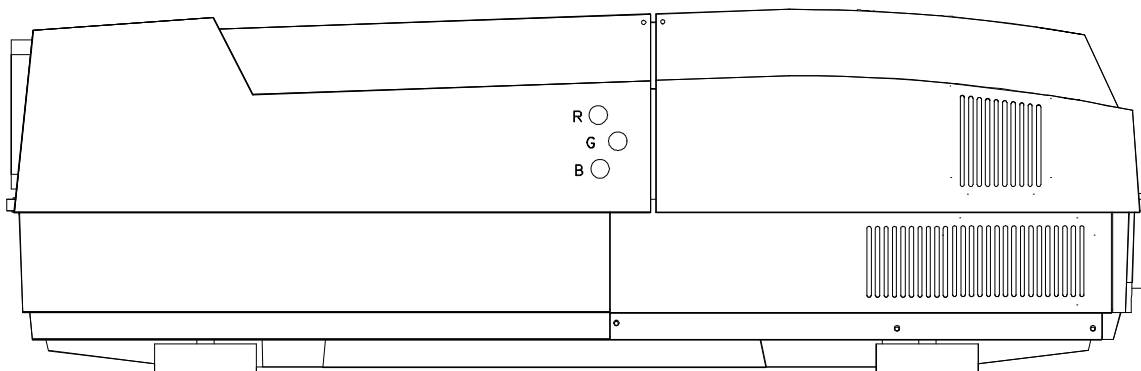

Figure 5-13. Electronic Focus adjustment screws.
The Electronic Focus adjustment focuses the electron beam in the CRT. View one color at a time for these adjustments. Recheck the focus of each color because some interaction between R, G, and B may occur. The adjustments are located on the right side of the projector (see *Figure 5-13*).
4. Adjust the Electronic Focus (see *Figure 5-13*) for a sharp focus of the H pattern at the center of the screen.